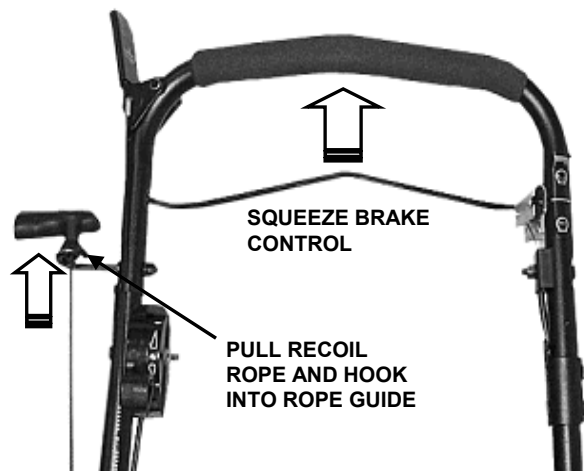

FIGURE 7
STEP 6: Squeezing brake control against upper handle, grasp engine recoil and pull firmly past recoil rope guide on right side of upper handle. Hook recoil rope into eye of rope guide. See Figure 7.